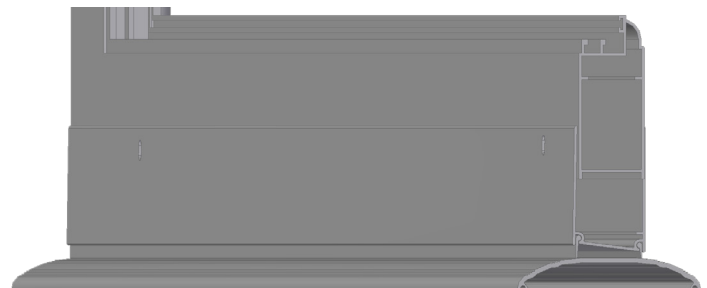

**Figure 4**
6. Install frame header next. Set header at top of opening. Be certain to push header tight to hinge rail. Close door and check for even clearance between top of door leaf and header (adequate clearance is approximately 3/32"). **Do not fasten in place until STEP 7 is complete. See Fig. 4.**